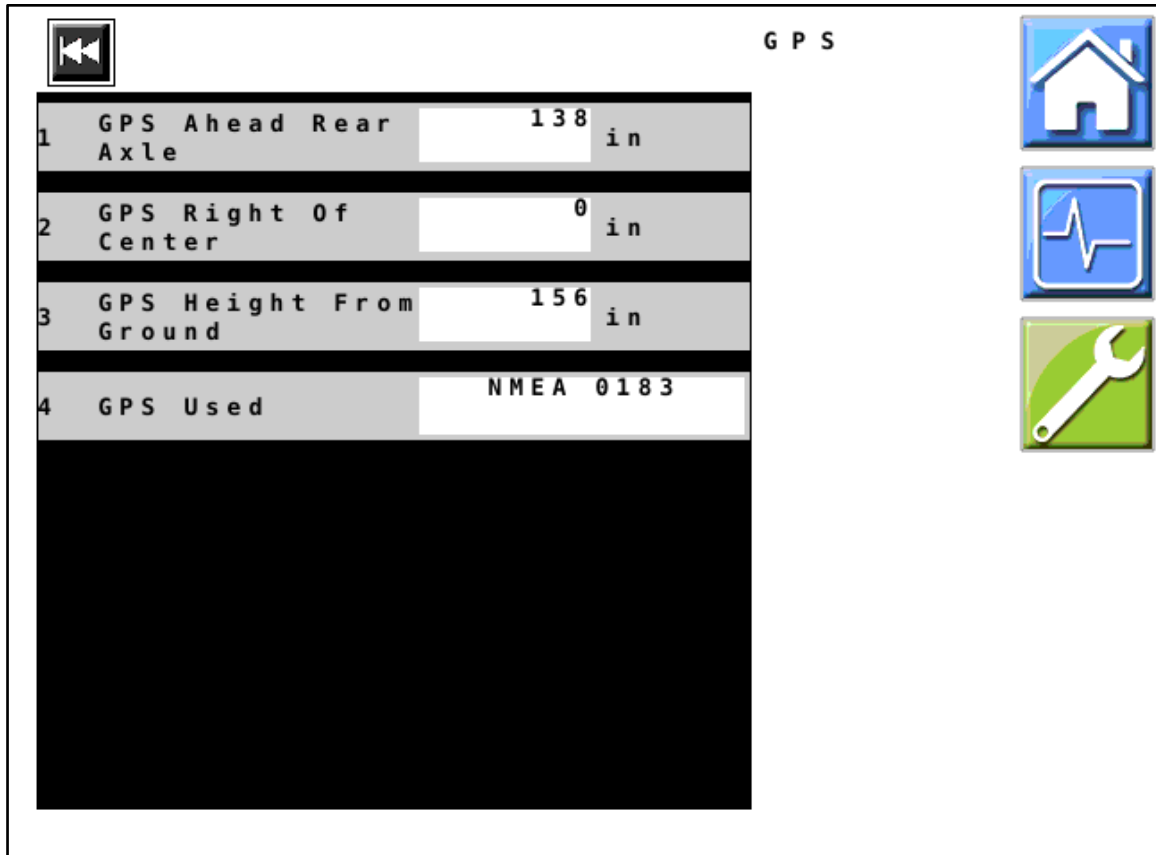

Figure 25 — GPS
46. *Figure 25*: Select the type of GPS from the list of available options. Not all of the options listed here may show on your system. Only the types available for your system will show on your list.